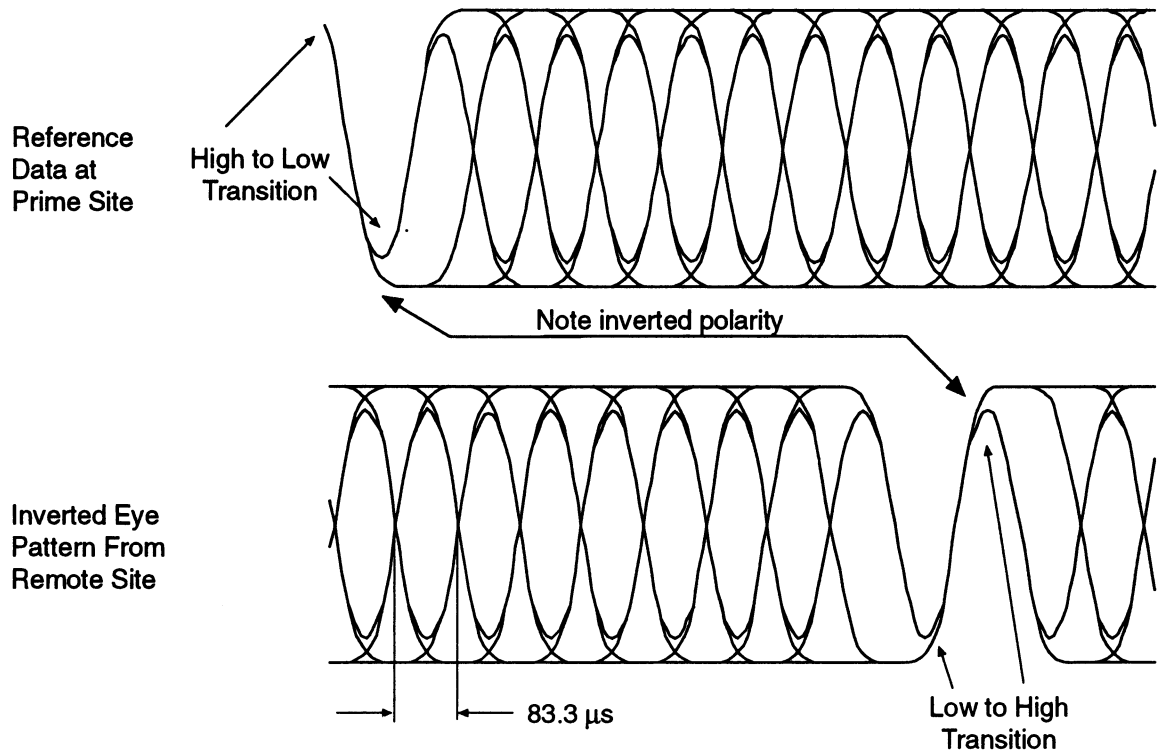

Figure 17. Inverting Polarity for a Two-Level System
- If the eye pattern looks like Figure 17 and you are using an inverting receiver (Spectra Consolette), the polarity is correct. Notice the prime site's eye pattern has a high-to-low dip, while the remote site's eye pattern has a low-to-high dip. If it doesn't look like this, you have incorrect polarity.